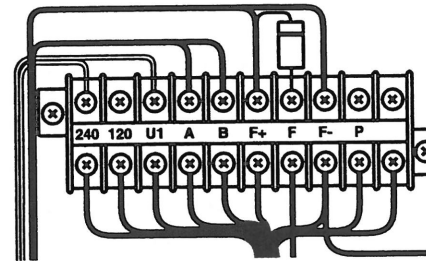

Figure 29: Control Terminal Board, 120/240 Volt Output
- Connect the control terminal board for 240 volts (Figure 29).